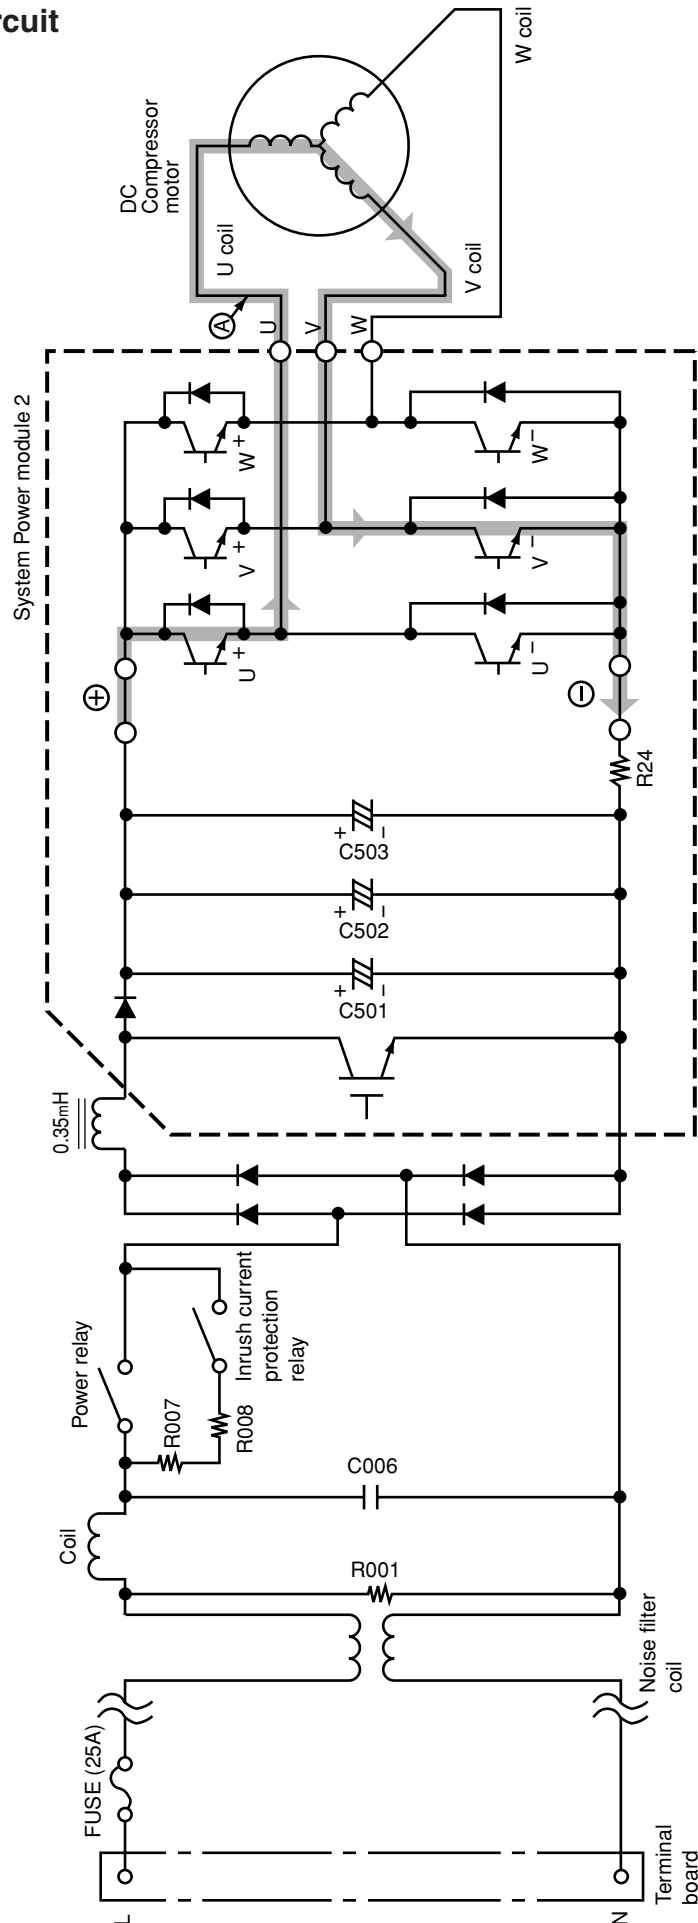
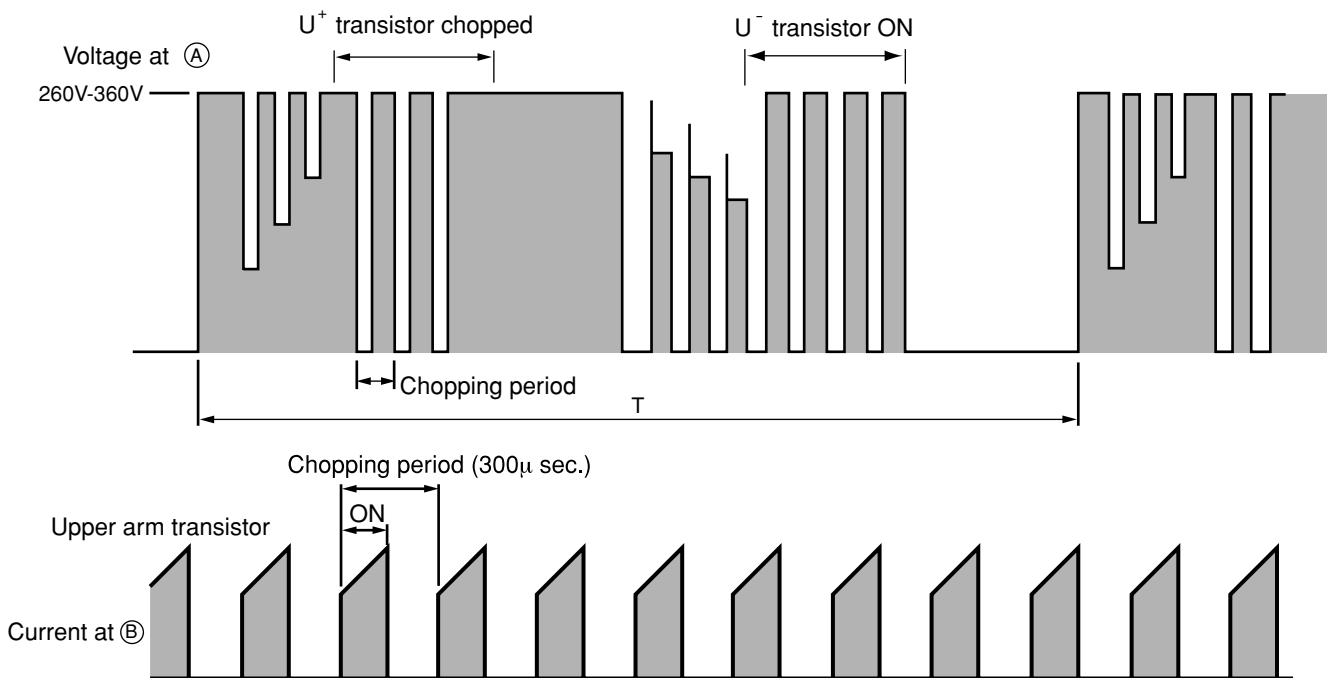

Fig. 3-1 Power module circuit (U⁺ is ON, V⁻ is ON)
Fig. 3-3 Voltage waveform at each point
- Fig. 3-1 shows the system power module and its peripheral circuit. The three transistors on the positive ⊕ side are called the upper arm, and the three transistors on the negative ⊖ side are called the lower arm.
- Fig. 3-3 shows voltage waveform at each point shown in Figs. 3-1 and 3-4. First half of upper arm is chopper, second half is ON, and first half of lower arm is chopper, second half is ON.
- When power is supplied U⁺ → U⁻, because of that U⁺ is chopped, current flows as shown below; (B)
- (1) When U⁺ transistor is ON: U⁺ transistor → U coil → V coil → V⁻ transistor → DC current detection resistor → Point (B) (Fig. 3-1)
- Since current flows at point (B) only when U⁺ transistor is ON, the current waveform at point (B) becomes intermittent waveform as shown in Fig. 3-3. Since current at point (B) is approximately proportional to the input current of the air conditioner, input current is controlled by using DC current (I_d) detection resistor.